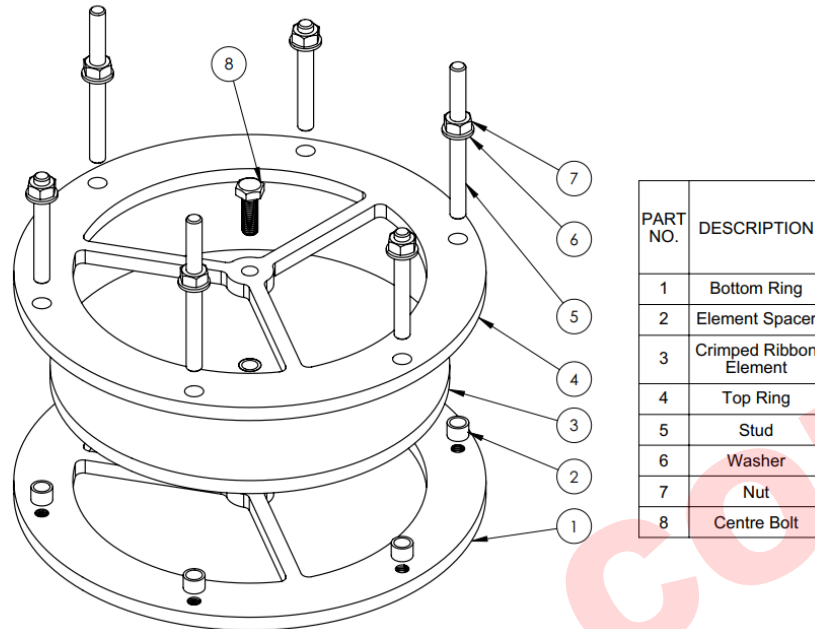

Figure 3 – Element Assembly Exploded View
Use figure 3 for guidance when replacing the Crimped Ribbon Element (3). Take care when handling the Crimped Ribbon Element (3) - it can be easily damaged. Always check the marking on the periphery of the crimped ribbon element (3) to ensure the replacement element is the correct size and for the correct explosion group. When reassembling the Flame Arrester, all element assembly bolting (5,6,7,8) is to be torqued as per the values given in the element assembly torque table (page 4).
1. Undo the element bolting (5,6,7,8) and separate the top and bottom element rings (4,1). Take care to ensure the Element Spacers (2) do not go missing.
2. Carefully remove and replace the crimped ribbon element (3). Ensure the contact surfaces of the top and bottom rings (4,1) are free from dirt and contaminants before reassembly.